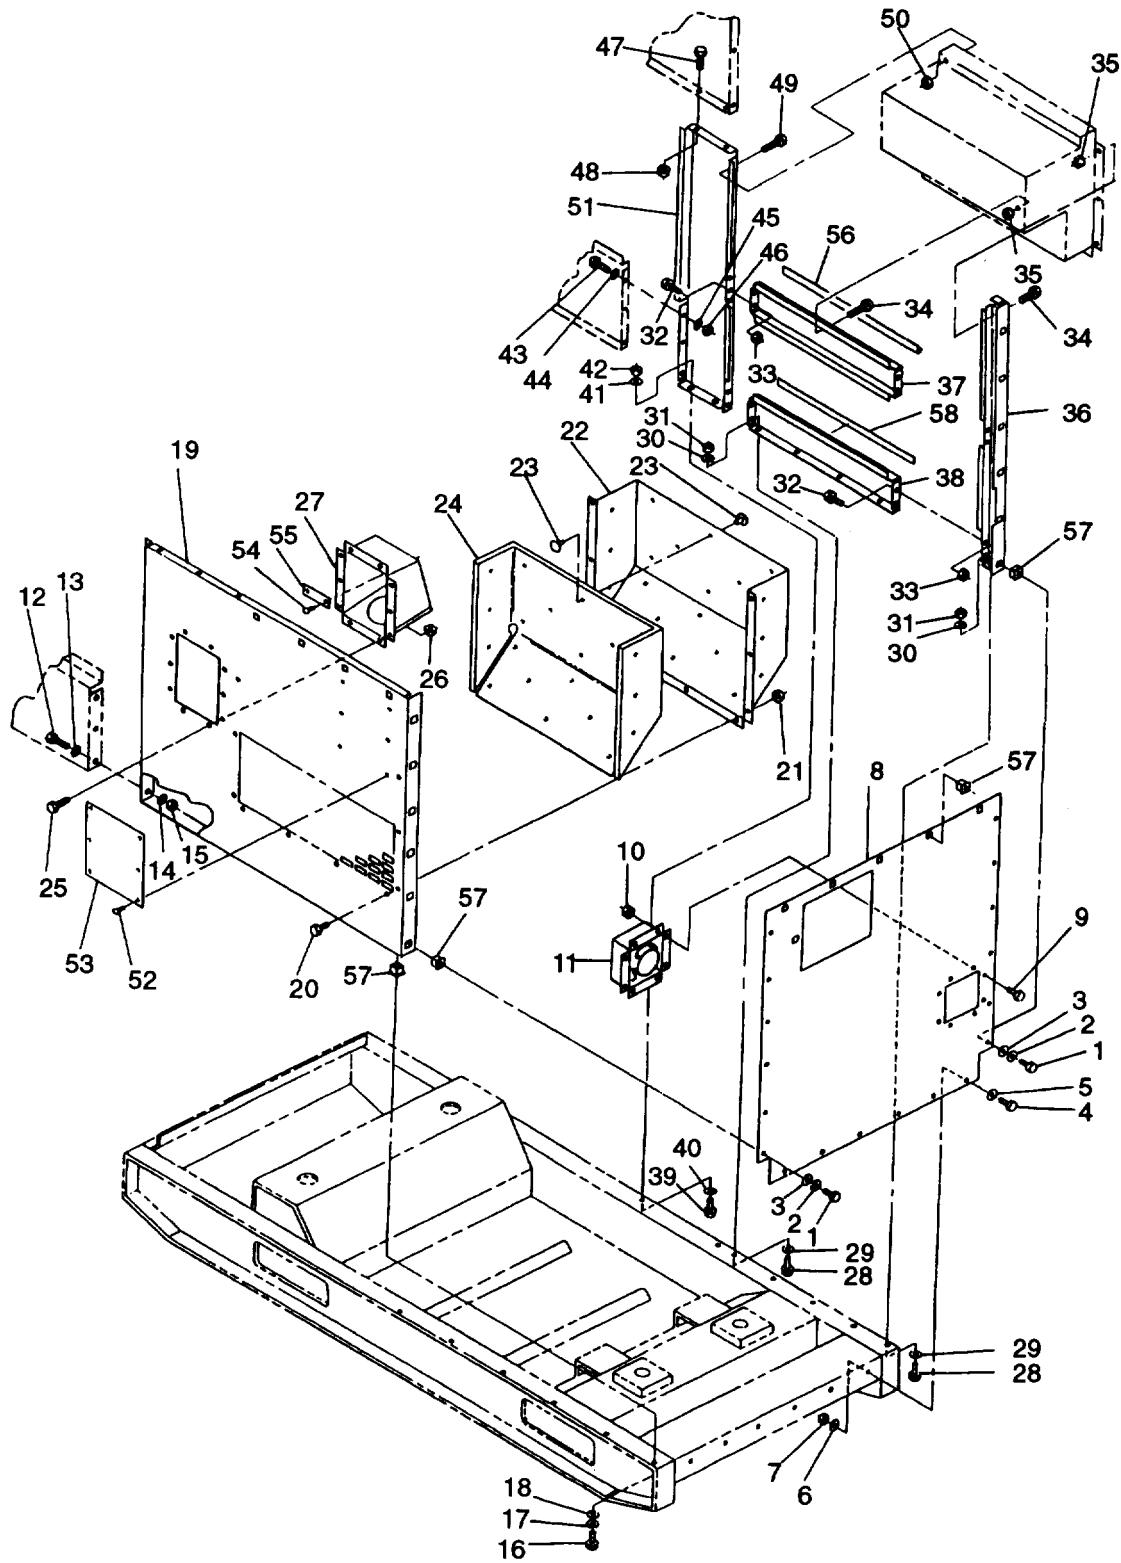

FIGURE 2-9. Generator Set Rear Housing Section
- j. Remove bolts (1 and 4, FIGURE 2-9), flatwashers (3) and (5), lockwashers (2) and (6), nuts (7), and rear panel (8) from generator set.
- k. Remove bolts (9), assembled nuts (1 O), and load cable entrance box (11) from rear panel (8).
- l. Remove bolts (12) and (16), flatwashers (13) and (18), lockwashers (14) and (17), nuts (15), and left side rear panel (19) from generator set.
- m. Remove bolts (20), assembled nuts (21), and baffle (22) from left side rear panel (19).
- n. Remove clip halves (23) and insulation (24) from baffle (22).
- o. Remove bolts (25), assembled nuts (26), and fuel filler neck panel (27) from left side rear panel (19).
- p. Remove bolts (28), (32), and (34); flatwashers (29); lockwashers (30); nuts (31); assembled nuts (33) and (35); corner post (36); and door sills (37) and (38) from generator set.
- q. Remove bolts (39), (43), (47), and (49); flatwashers (40) and (44); lockwashers (41) and (45); nuts (42) and (46); assembled nuts (48) and (50); and right side panel (51) from generator set.
- r. If necessary, drill out rivets (52) and remove plate (53) from left side rear panel (19).
- s. If necessary, drill out rivets (54) and remove plate (55) from fuel filler neck panel (27).
- t. If necessary, remove output box EMI seals (56) from door sill (37), corner post (36), and right side panel (51).
- c. Inspect all cage nuts (57, FIGURE 2-9) for cracking or stripped threads.
- e. Inspect EMI seals (56) for tears, looseness, and deterioration.
- f. Inspect door seals (58) for tears, looseness, and deterioration.
- c. Repaint surfaces in accordance with TM 43-0139. (F) Use applicable directives.
- d. Replace all cracked or stripped cage nuts (57, FIGURE 2-9).
- e. Replace damaged insulation and missing clip halves (23). Refer to Appendix D for fabrication of insulation.
- f. Replace EMI seals (56) that are loose or show any evidence of damage.
- g. Replace damaged door seals (58).
- a. If removed, install plate (55, FIGURE 2-9) on fuel filler neck panel (27) with rivets (54).
- b. If removed, install plate (53) on left side rear panel (19) with rivets (52).
- c. Install right side panel (51) on generator set with bolts (39), (43), (47), and (49); flat washers (40) and (44); lockwashers (41) and (45); nuts (42) and (46); and assembled nuts (48) and (50).
- d. Install door sills (37) and (38), and corner post (36) on generator set with bolts (28), (32), and (34); flatwashers (29); lockwashers (30); nuts (31); and assembled nuts (33) and (35).
- e. Install fuel filler neck panel (27) on left side rear panel (19) with bolts (25) and assembled nuts (26).
- f. Install insulation (24) on baffle (22) with clip halves (23).
- g. Install baffle (22) on left side rear panel (19) with bolts (20) and assembled nuts (21).
- h. Install left side rear panel (19) on generator set with bolts (12) and (16), flatwashers (13) and (18), lockwashers (14) and (17), and nuts (15).
- i. Install load entrance box (11) on rear panel (8) with bolts (9) and assembled nuts (10).
- j. Install rear panel (8) on generator set with bolts (1) and (4), flatwashers (3) and (5), lockwashers (2) and (6), and nuts (7).
- k. If removed, install output box EMI seals (56) on door sill (37), corner post (36), and right side panel (51) with adhesive (Item 1, Appendix C). Ensure closed side of seal faces outward.